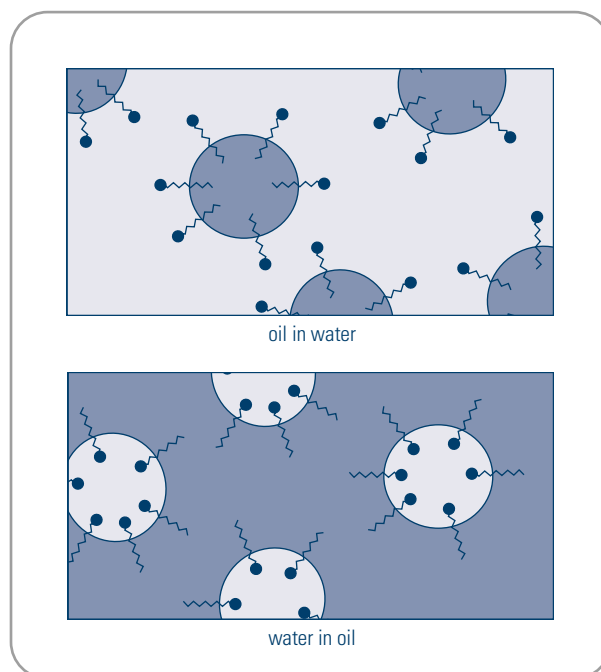

FIGURE 2
- Station 4: Set up the simple equipment as in Figure 2. Tape different-sized capillary tubes to the ruler, making sure that one end of the largest capillary tube is dipped into oil before mounting it. For coloured water, use water-soluble food colouring or a crystal of potassium permanganate.
Students also redraw the set-up of the equipment (Figure 2